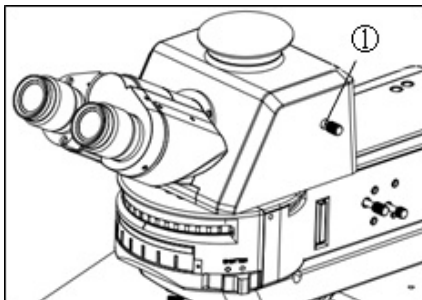

Fig. 22
5.7. Selecting the Light Path of Binocular Observation Tube (Fig. 22)
Select the desired light path as shown in Fig. 22.